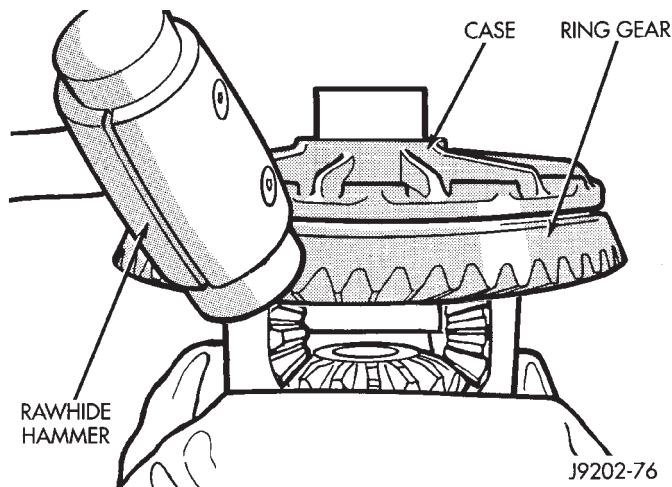

Fig. 14 Ring Gear Removal
(2) Clamp the differential case in a vise equipped with soft jaws. Remove and discard the ring gear bolts. Tap the ring gear with a rawhide or plastic mallet and remove (Fig. 14).